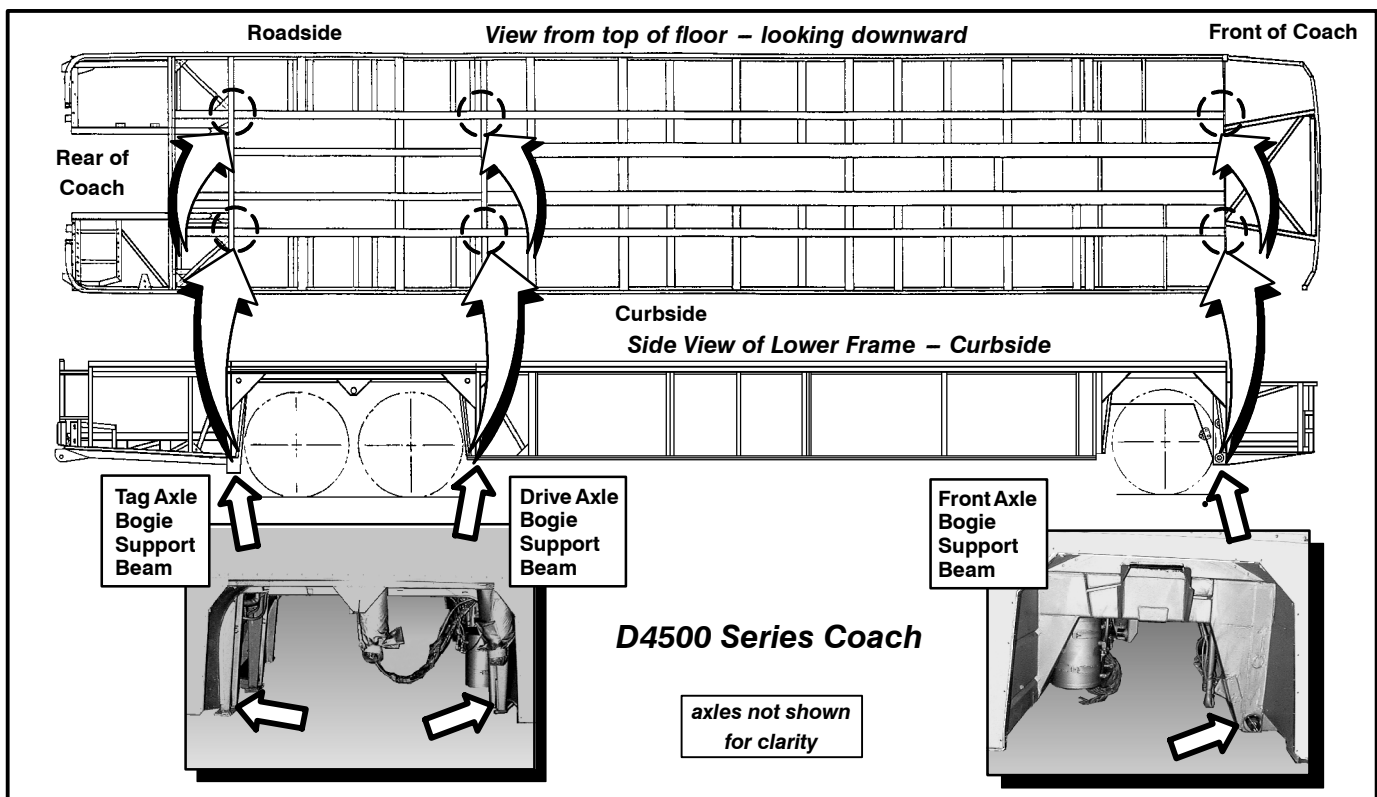

Figure 2. - D4500 Under Frame Jackstand Support Points
**Dump the air from the tag axle suspension and raise coach to desired height. Position jackstands at the front and rear frame support points, according to Figure 2, to ensure that the coach is securely supported before attempting work underneath the coach.**